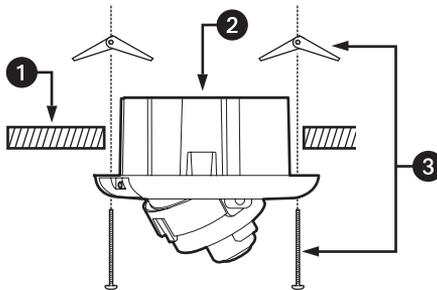

Figure 5. Fixed Ceiling or Wall Installation
- (1) Insert the back box into the hole in the ceiling/wall. Be sure to angle the back box during this step to ensure that the wiring is inserted into the hole first and is not bent or damaged.
- (2) Use 3/16-inch toggle bolts (not supplied) to attach the back box to the mounting surface (refer to Figure 5).